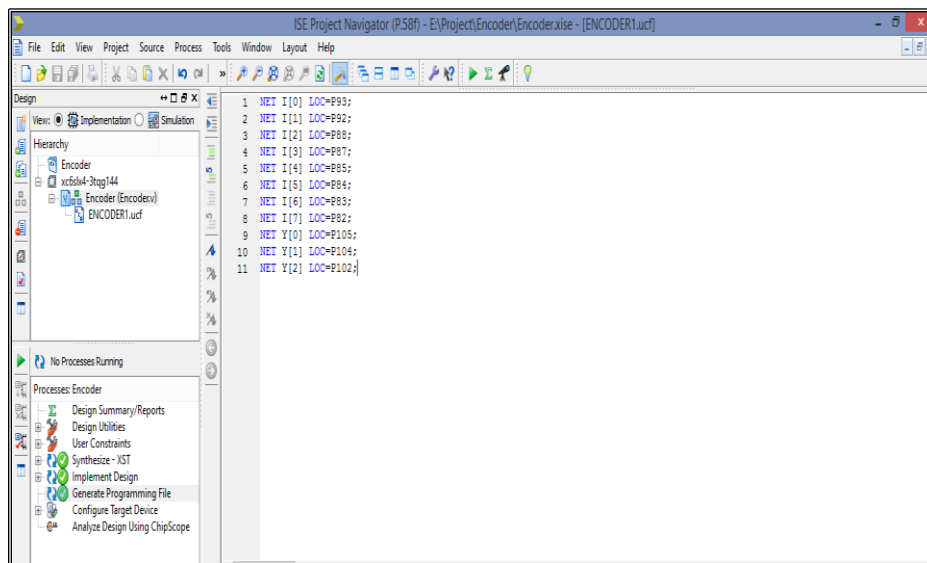

Fig 6.9: UCF declaration
18. A blank window will appear in a new tab having the design’s name as “Encoder1.ucf” . Add the constraints for each input port and output port (Fig 6.9).Save.